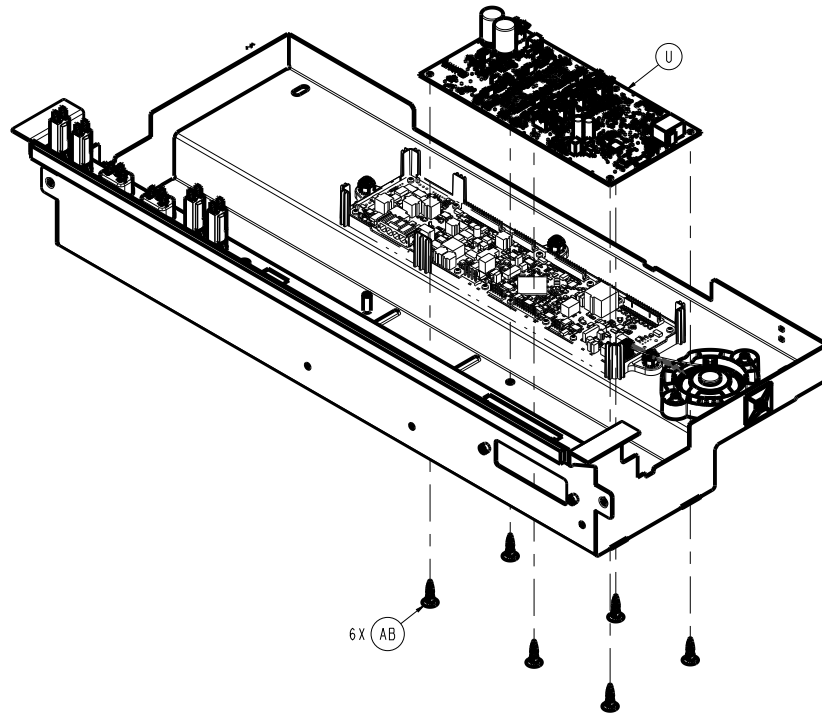

Figure 18 – Replacing the motion controller board
9. Using needle nose pliers, unclip the six locking standoffs (AB) that secure the motion controller board (U) to the electronics box assembly (Figure 18).